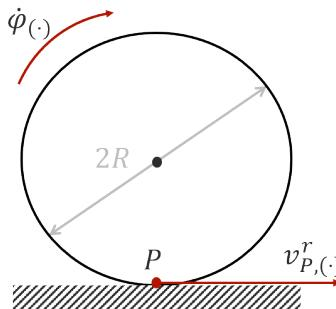

Figure 11.3. Pure rolling kinematic constraint
- *Pure rolling:* the wheels never slips or skids (Figure 11.3). Recalling that R is the radius of the wheels (identical) and letting $\dot{\phi}_l, \dot{\phi}_r$ be the angular velocities of the left and right wheels respectively, the velocity of the ground contact point P in the robot frame is given by: